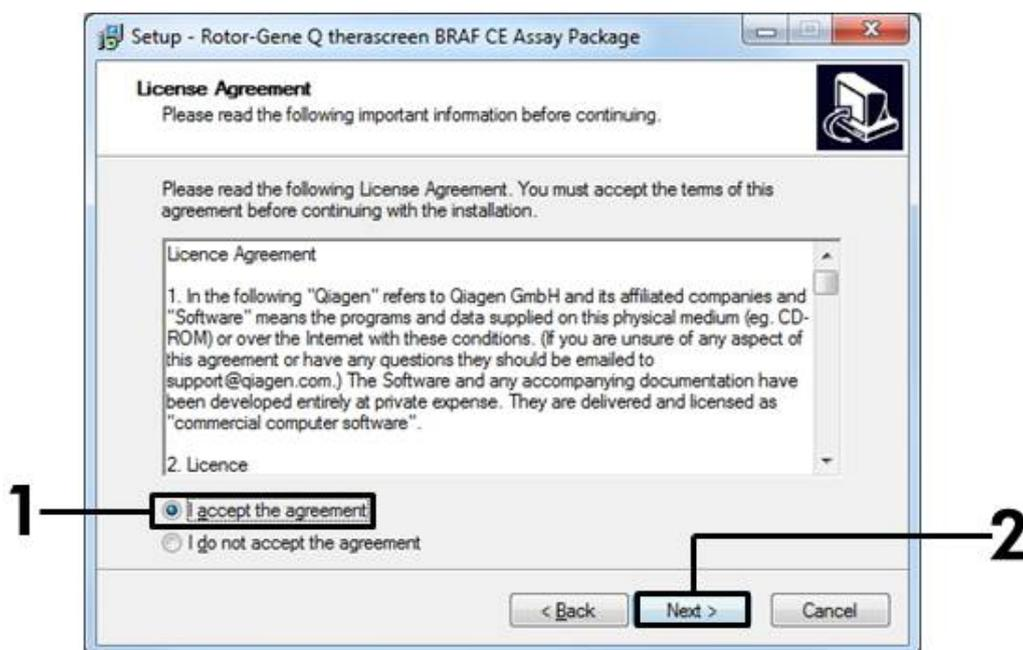

Figure 42. The "License Agreement" dialog box. (1 = "Accept" button, 2 = "Next" button).
5. Read the License Agreement in the "License Agreement" dialog box and accept the agreement by checking the statement "I accept the agreement". Click "Next" to continue (Figure 42).